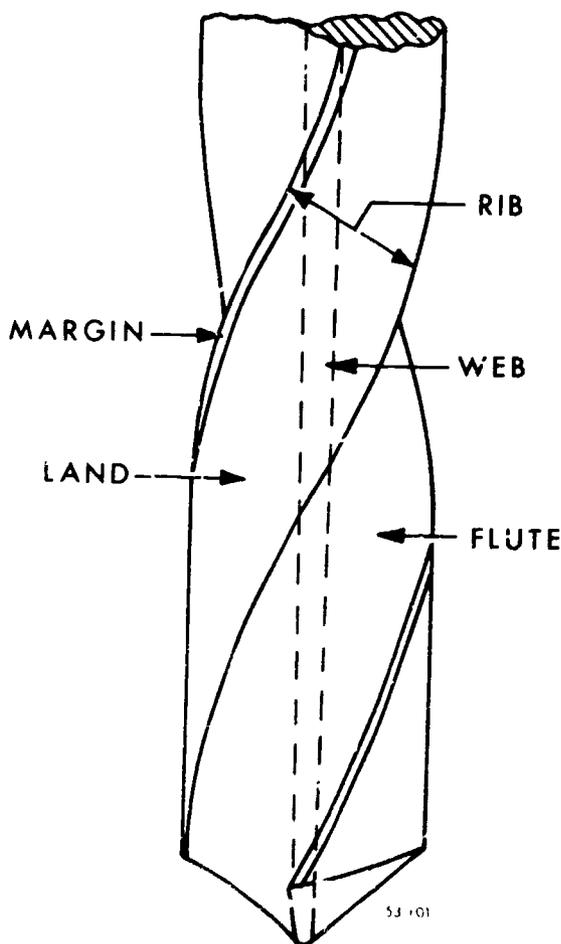

Figure 101 Body parts of a twist drill.
c. The web is the portion of the drill body between the flutes. It provides strength and rigidity to the drill, as shown in figure 101.